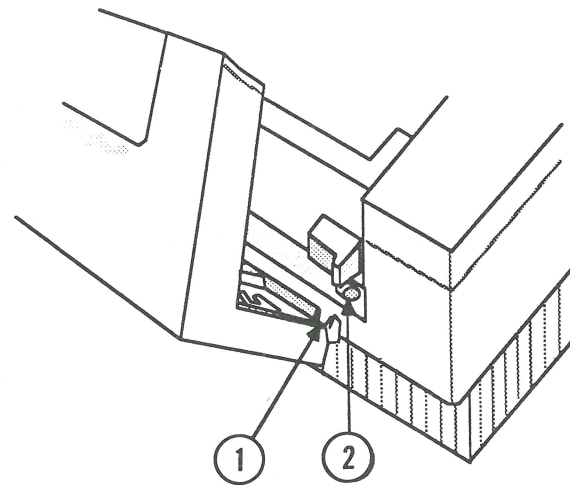

FIGURE 3
2. Place the front cover on the main cover so that the hooks on the hinge plate (Figure 3, #1) mate with the corresponding hooks on the main cover (Figure 3, #2).